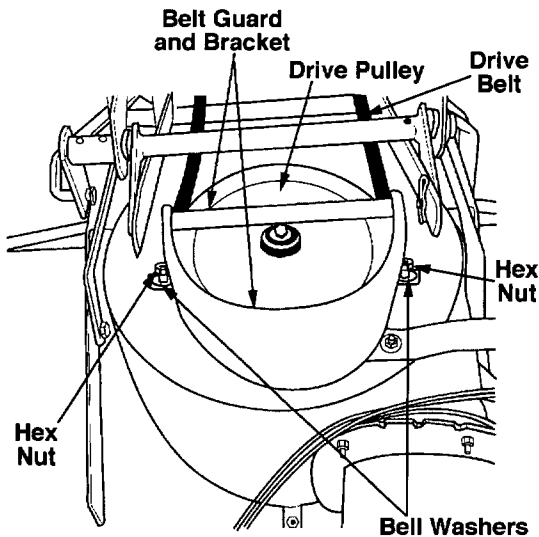

Figure 29
- a. Remove the two hex nuts and bell washers fastening the belt guard bracket to the housing. Refer to Figure 29.